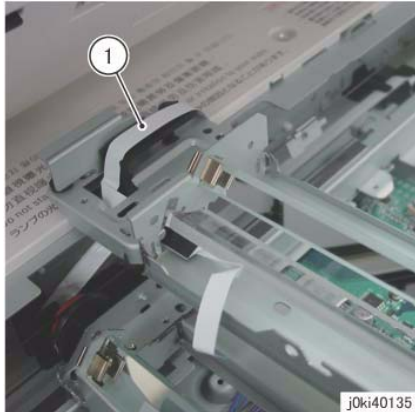

Figure 6 Remove the LED Lamp Wire Harness
11. Remove the LED Lamp Wire Harness from the Full Rate Carriage. (Figure 6)